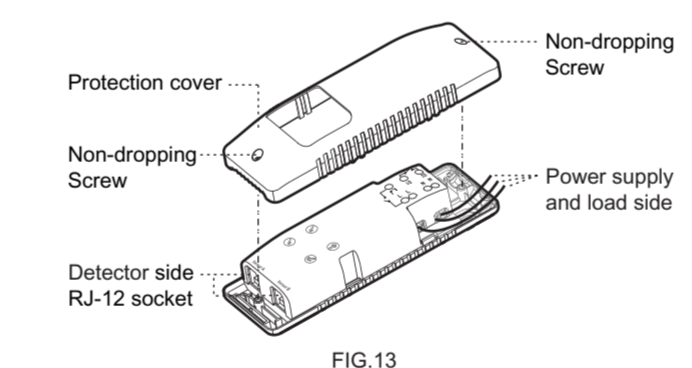

FIG.13
3.3.2 Unscrew protection cover on power box with screwdriver. RJ-12 sockets are for s connection and terminals are for power and load, then put the protection cover back and screw it tightly (See FIG.13).